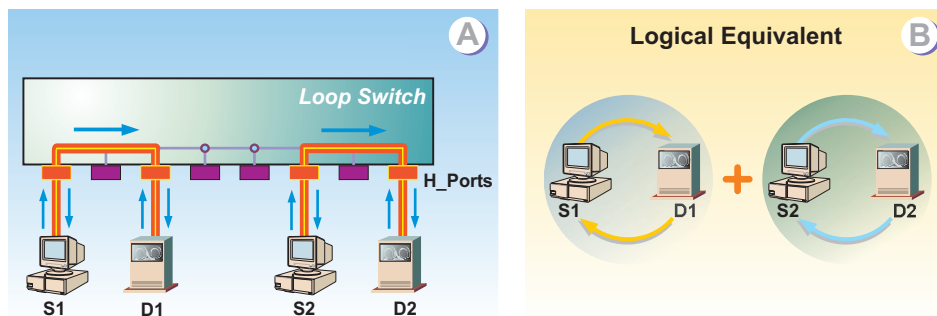

Figure 29: Switched mode operation and logical equivalent
When set to switched mode (default setting), a loop switch enables frame transmission through multiple point-to-point connected pairs. Switched mode operation and its simplified logical equivalent are illustrated in Figure 29.
Part A of Figure 29 shows server S_1 connected to device D_1 through a switched pair of H_Ports, communicating at 1.0625 Gbps. Server S_2 is connected to device D_2 through a second switched pair of H_Ports, also communicating at 1.0625 Gbps. Because of opportunistic bandwidth sharing, the two switched pairs effectively increase the switch bandwidth to 2.125 Gbps. The remaining switch H_Ports (four ports) are available for switched connection to each other but cannot communicate with servers S_1 and S_2 or devices D_1 and D_2 . Part (B) of Figure 29 shows the logical equivalent of this arbitrated loop.